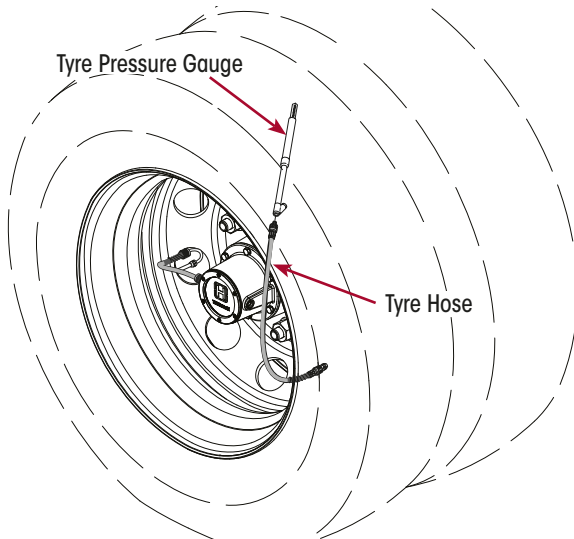

Figure 213: Manually Checking Tyre Pressure
3. Use a conventional gauge to measure tyre pressure at hose end. Refer Figure 213.